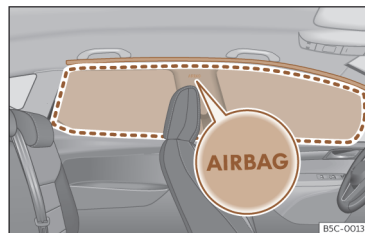

Fig. 33 Location of head-protection airbags.
Head-protection airbags are on both sides of the passenger compartment, above the doors >>> Fig. 33 and their location is indicated with the word "AIRBAG".
The framed area is covered by the head-protection airbag when it is deployed (deployment area) >>> Fig. 33. Therefore, objects should never be placed or mounted in this area >>> ⚠.
- Ensure that children are correctly seated in their seats and that their heads are not in the deployment zone of the head airbags >>> Fig. 33, as deploying airbags could hit them and cause serious injury.